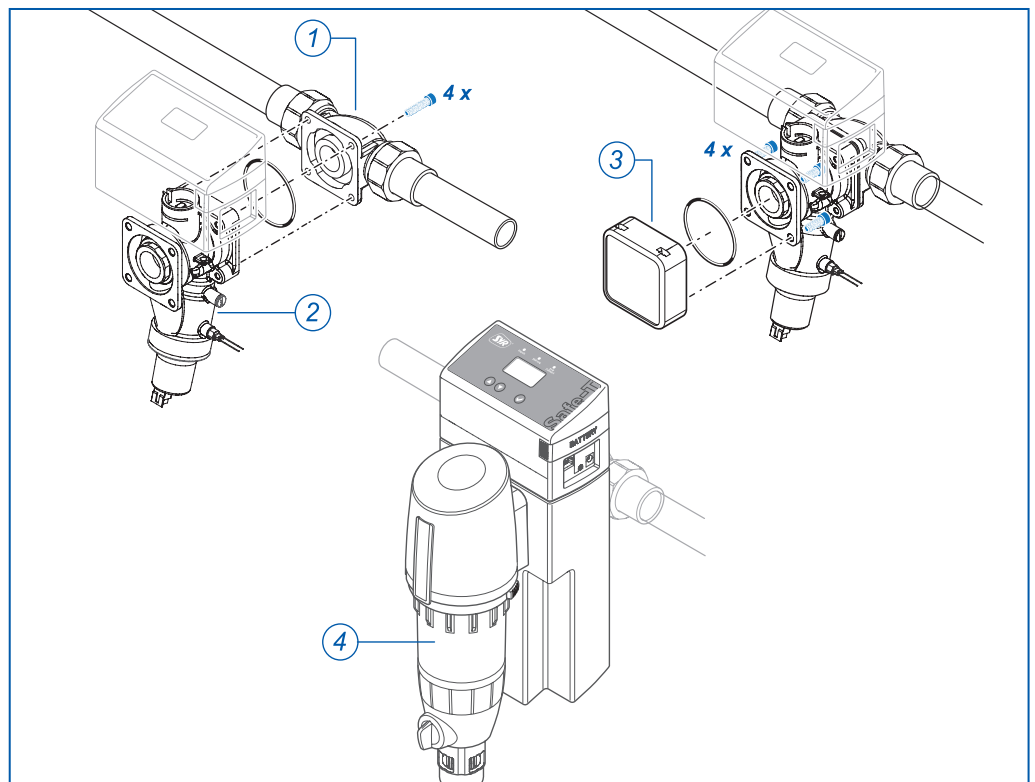

Fig. 3: Safe-T Connect installation
- ▶ Mount the Safe-T Connect (2, fig. 3) on the flange (1) with the four Allen screws and gasket.
- ▶ Close off the front flange connection with a blanking cap (3, art. No. 2320.00.901) or connect a SYR DRUFI + (4) at this point.